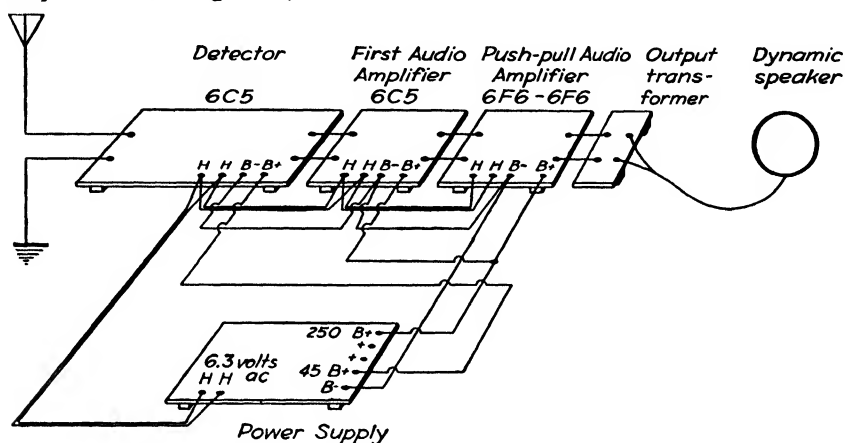

FIG. 326. Hook up a push-pull amplifier. Connect the set boards together.
How to hook up a push-pull amplifier. When you hook up a push-pull amplifier, you must have enough voltage to drive its grids, so that this circuit will develop all the power it is capable of producing. For this reason you will need an amplifier stage ahead of the push-pull stage. As shown in Fig. 326, this voltage is provided by the 6C5 audio-amplifier stage ahead of the push-pull stage.
Step 1. Connect three circuit boards together. Use a 6C5 detector, a 6C5 first audio amplifier, and a 6F6-6F6 push-pull amplifier (see Fig. 326).
Step 5. Connect a separate B-plus wire to each board. Use the voltages shown in the diagram in Fig. 326.